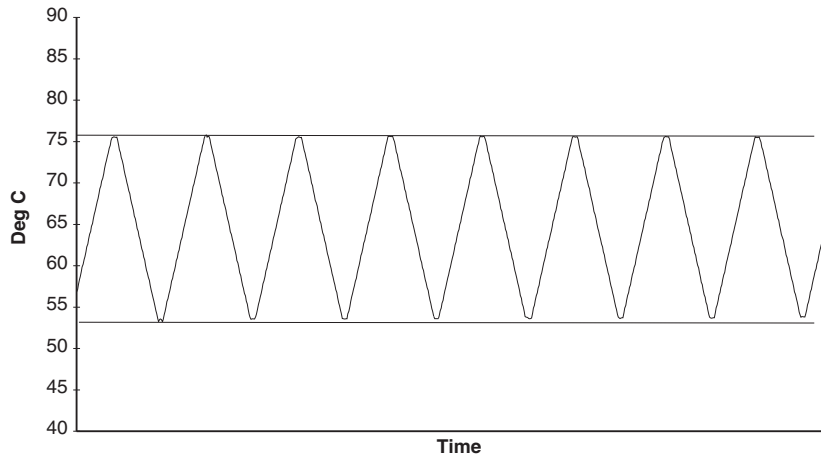

Figure 7 Switch Test Data
12. Collect data on a computer connected to the RS-232 port. Refer to Section 9 for instructions on configuring the RS-232 communications interface. The data may appear as shown in Figure 7. The maxima and minima are the switch temperatures.